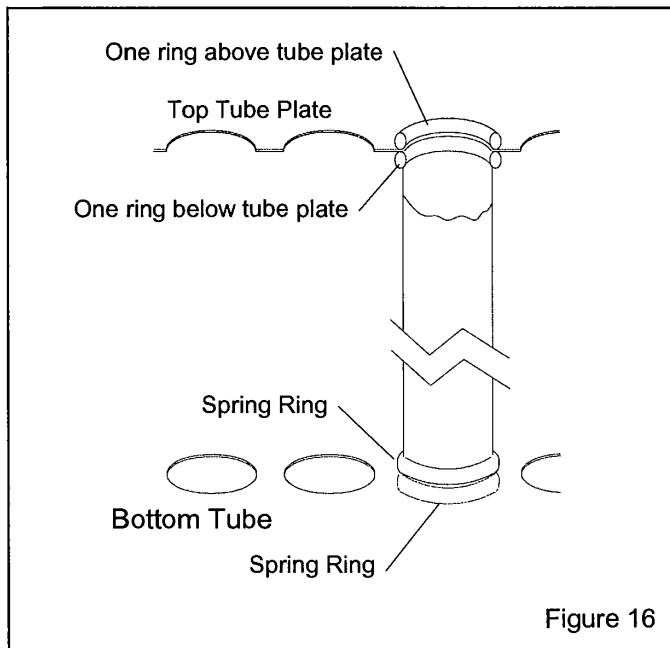

Figure 16
7.7 Dry Filter Tube Replacement, Figure 16
7.7.1 Replace damaged filters immediately. Remove the old filters by pulling the spring rings off the bottom and top tube plates. Working from the back to the front, install one filter at a time. To install new filters, form the end of the spring ringed tubular filter into a shallow "c" shape, push the filter far enough into the hole of the top plate to allow one spring ring to snap into place above the tube plate and the other to snap into place below it. See the illustration in Figure 16.